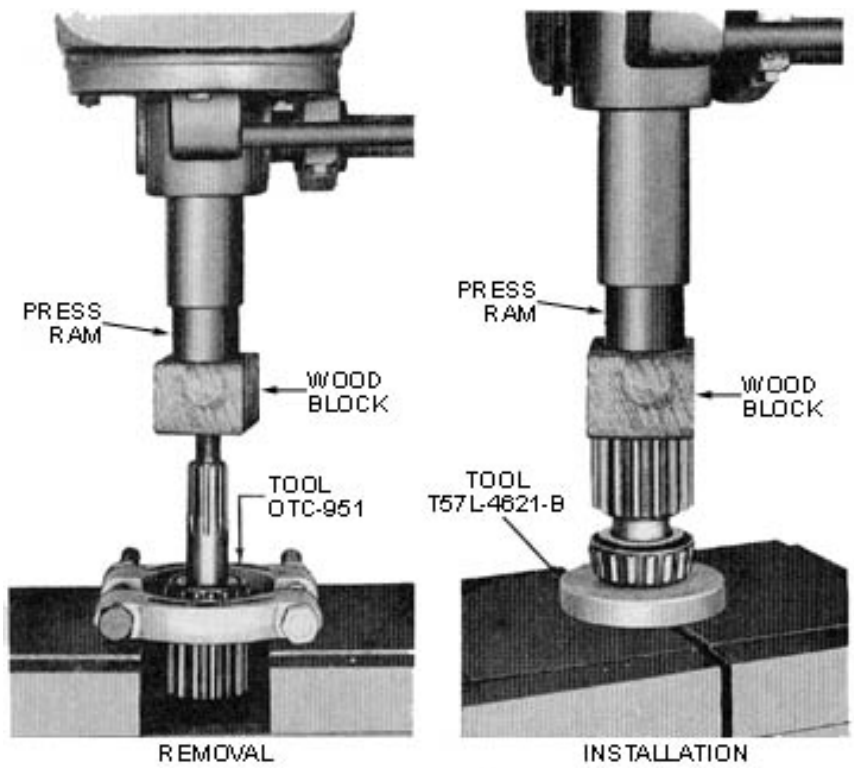

Figure 14 – Replacing Output Shaft Inner Bearing
7. Remove the inner bearing from the output shaft with the tool shown in Fig. 14.
8. Press the shaft onto the inner bearing with the tool shown in Fig. 14.